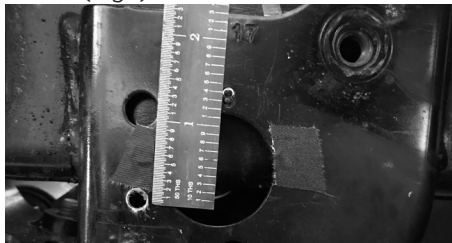

Fig. 1 Passenger's side shown
4. Install the supplied reservoir brackets to the vehicle behind the bumper above the skid plate. Place the top hole of the supplied FOX bracket 1" below the hole on the front bumper bar (Fig 1).